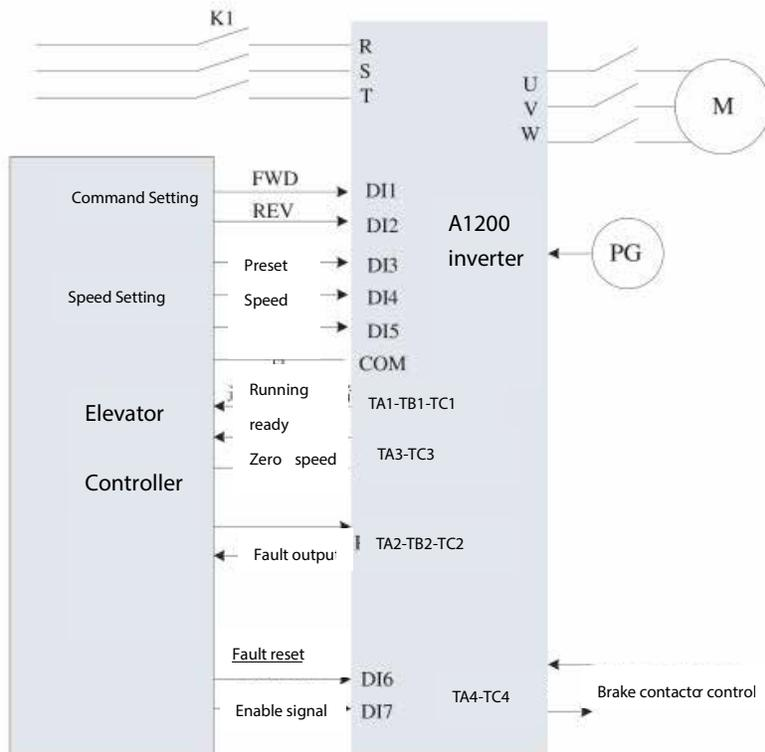

Figure 7-1 Wiring Diagram of Preset Speed Control
1) In figure 7-1, except TA2-TB2-TC2, function parameters of other input and output points have been configured at the factory and can only be changed when necessary;